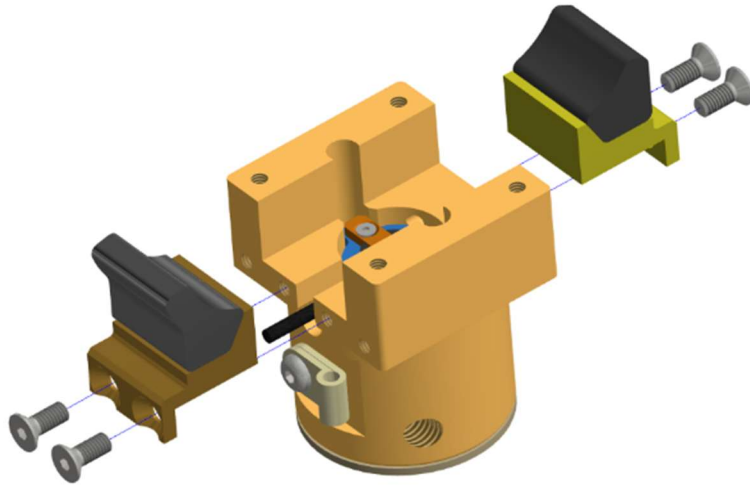

Figure 10-33. Remove the Plantar and Dorsi Stop Assemblies (474-5810 and 474-5807)
10.2.29 Remove the Plantar and Dorsi Stop Assemblies (474-5810 and 474-5807) from the Upper Ankle Adaptor (474-5820-1,2) by removing two M4 X 0.7 X 10 LG. FHCS per side (Figure 10-33).